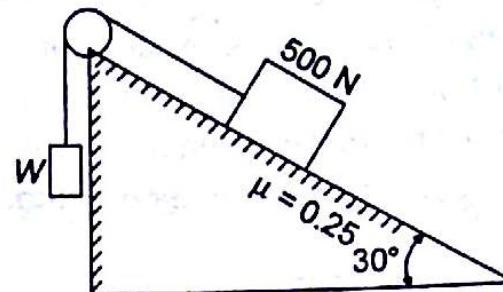

Fig. 6.21
6.3 Determine the range of magnitude of weight W for which the block of 500 N weight will either slide down the plane or slide up the plane. At what value of W , the friction force will become zero. Refer to Fig. 6.21.